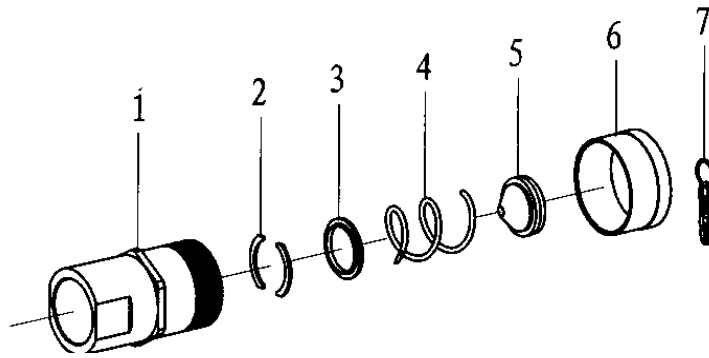

Fig. 7-11
11. Quick coupling (2 1/8-12UN) (Fig7-11, Table 11)